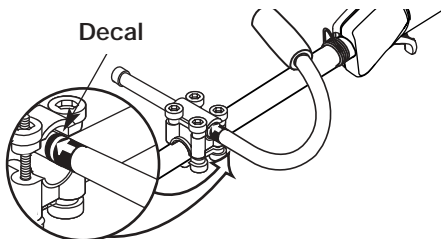

Fig. 3
5. Slide the J-handle in or out until the arrow/white line on the decal touches the clamp assembly (Fig. 3). You must first loosen the screws if the handle is pre-installed.